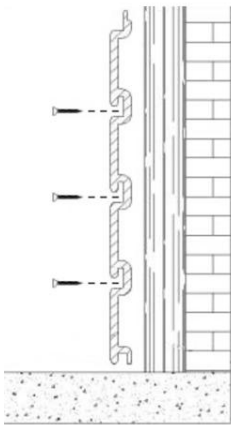
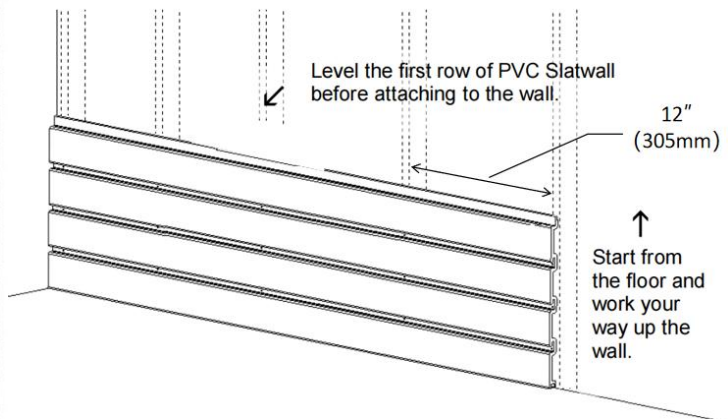

Figure 2
Figure 3
2. It is recommended to install the wooden strips to the wall at intervals of 12" (305mm). Then install screws in the slots of the wall panels, as shown in Figure 2 and Figure 3. Be sure to level the Slatwall before screwing them into the wooden studs. Screw the slatwall pane, the torque of electric drill is recommended 18-38 N.M.